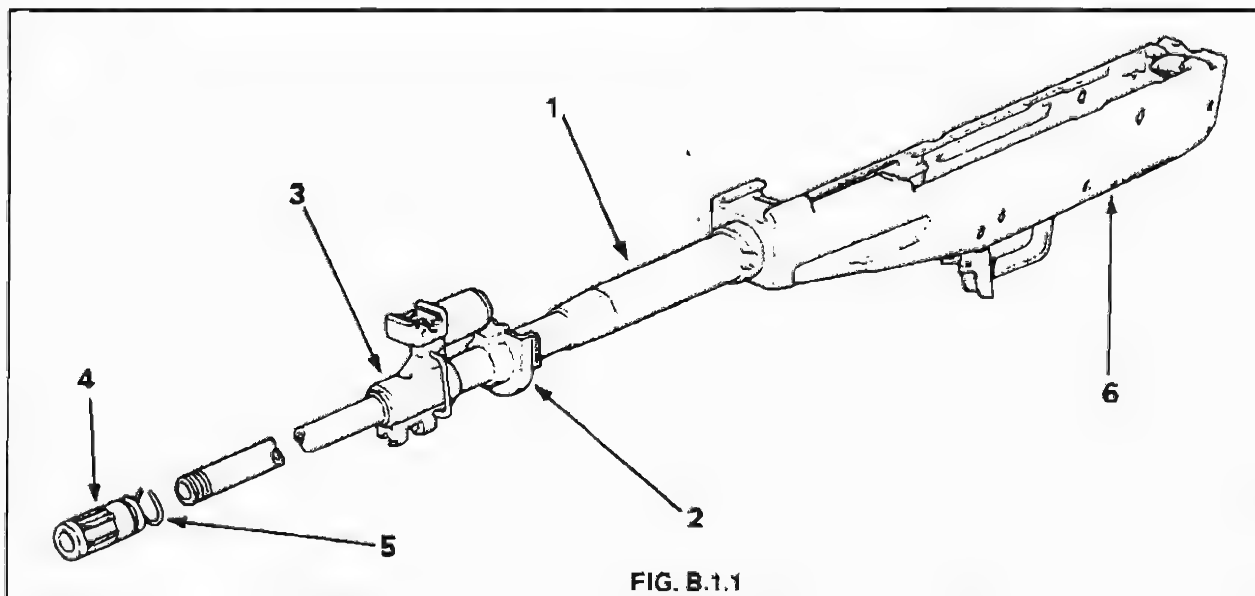

FIG. B.1.1
3. The barrel assembly consists of the following components, as illustrated in Fig. B.1.1